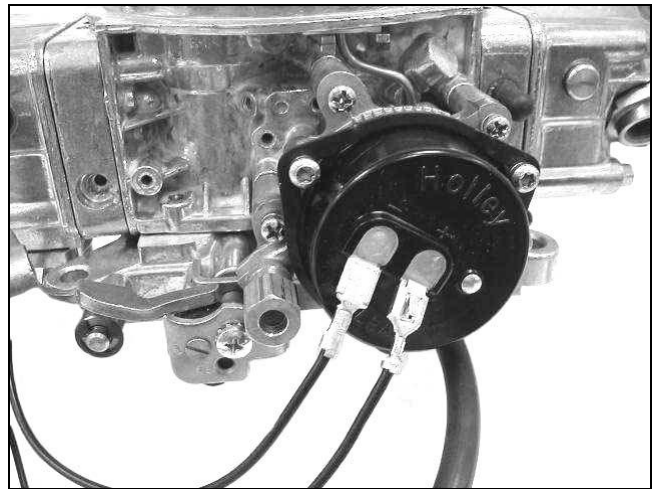

Figure 10
10. Use the shortest wire from the kit to connect the bayonet end to the negative choke cap terminal marked (-). Ground the eyelet end to the carburetor. Do this under a screw on the vacuum secondary diaphragm cover or under a screw securing the choke housing to the main body as shown in Figure 10.